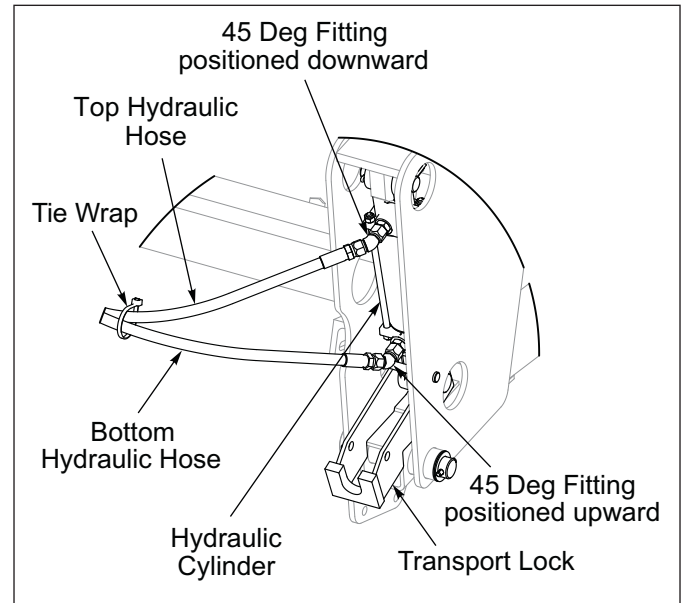

Figure 2-11: Cylinder Fittings Positioning
1. Restrictors installed in Cylinder Ports, connect 45 Degree Fitting so they are free to swivel. Connect top Hydraulic Hose to the Cylinder Base and bottom Hydraulic Hose to the Cylinder Rod End. Position the Hydraulic Hoses so that the Cylinder Base End points downward and the Cylinder Rod End points upward. Merge Hydraulic Hoses together and tie wrap them together about 12 inches from the Hose End. **See Figure 2-11.** Be sure that the Hoses cannot sag and make contact with the Front Roller Wheels.